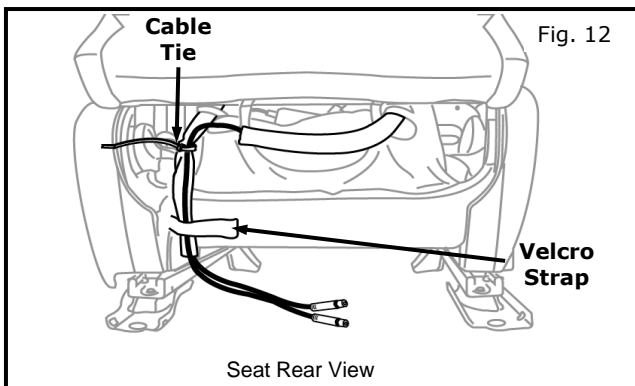

Fig. 12
- 20) Inspect the tap to ensure correct installation. Figure 12
- 16.6) Group two headrest cables to outboard side of vehicle by routing cable with red barrel connector toward cable with white barrel connector. Secure cables to seat harness using one cable tie as shown. Figure 12
- 16.7) Continue routing two headrest cables down and under seat. Secure cables using existing seat bottom Velcro strap. Figure 12